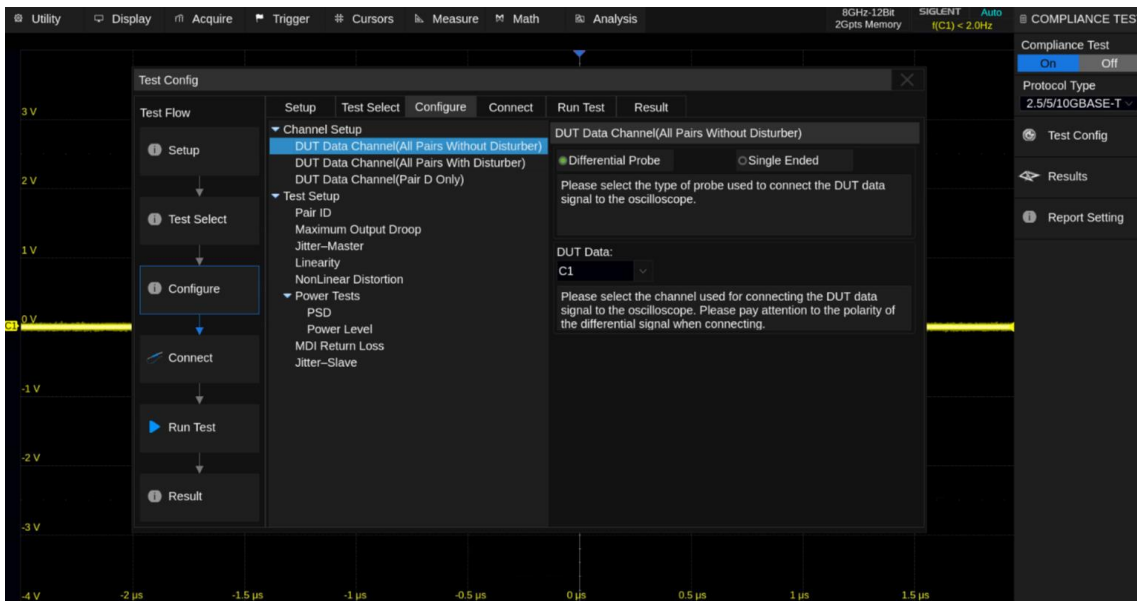

Figure 4-4 Test Item Selection Window
- **Configure:** The test items selected in **Test Select** will be highlighted in this column, and you can click the corresponding items to configure. You can set the input channels and probe type, as shown in Figure 4-4.
As shown in Figure 4-4, after click **DUT Data Channel (All Pairs Without Disturber)**, the channel setting window for all testable signal pairs and test items without disturber will be expanded. The available settings are: